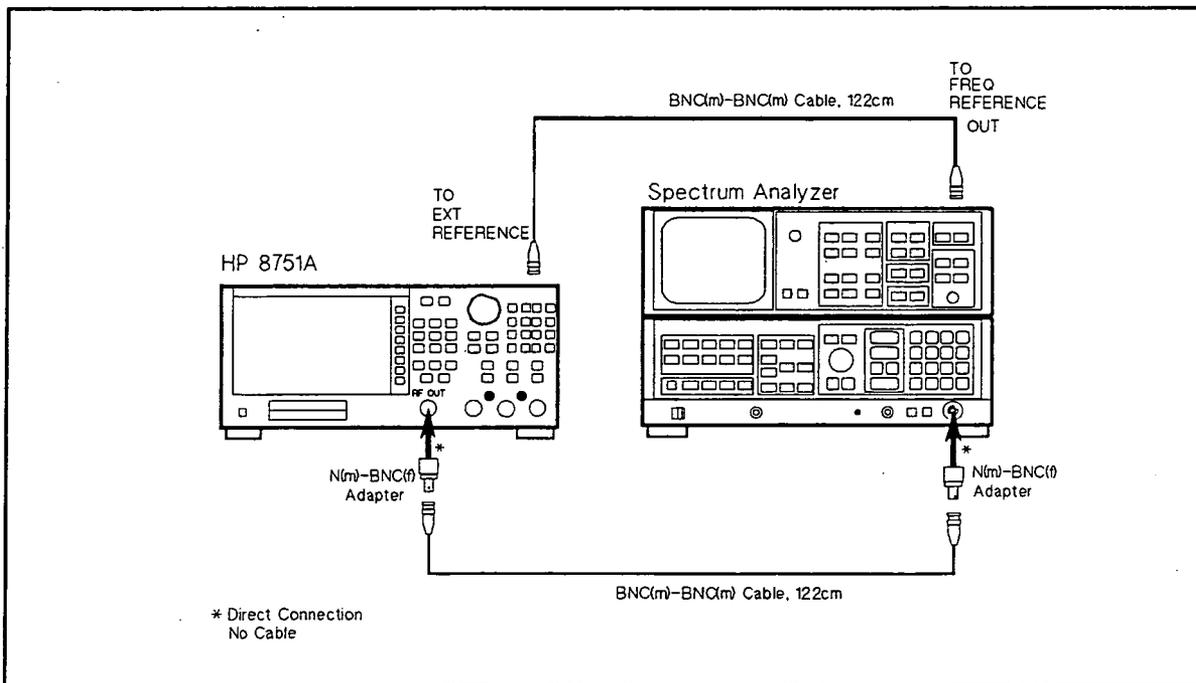

Figure 2-2. Harmonics Test Setup
1. Set up the test configuration shown in Figure 2-2.